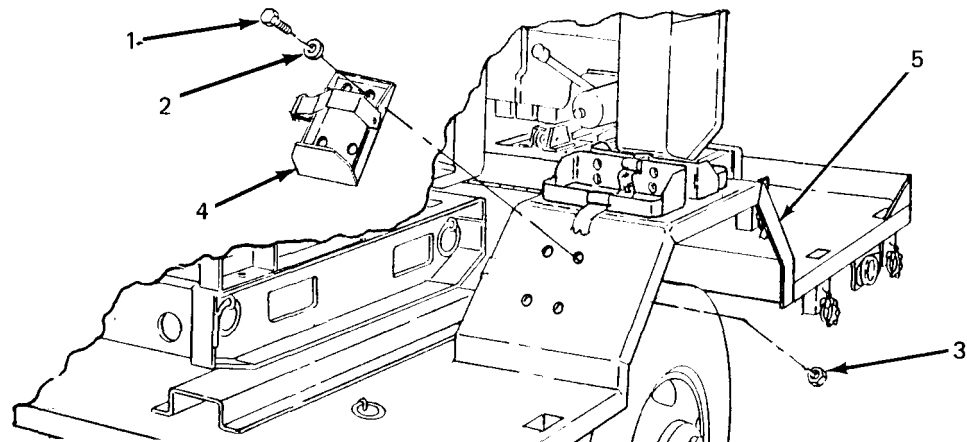

Figure 4-6. Fire Extinguisher Bracket Replacement.
- (1) Position accessory box (4) on trailer bed (5).
- (2) Insert four screws (1) with flat washers (2) through accessory box mounting brackets and trailer bed (5).
- (3) Working under trailer, install one flat washer (2) and one nut (3) on each screw (1). Tighten hardware to secure accessory box (4).
**4-20. Fire Extinguisher Bracket Replacement.** (See figure 4-6.) Each of the two fire extinguishers supplied with the power plant is carried in a bracket. One bracket is mounted on each fender. Replacement procedures described below are the same for both brackets.
- (1) Remove four screws (1), four flat washers (2) and four nuts (3) securing bracket (4) to fender (5).
- (2) Remove bracket (4) from fender (5).